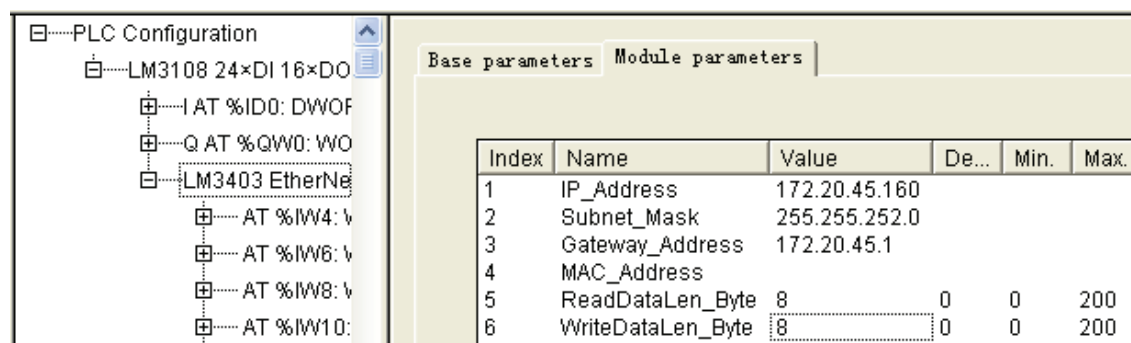

Figure 10-5-4 LM3403 Configuration
- Configure Ethernet module LM3403, shown in figure 10-5-4.